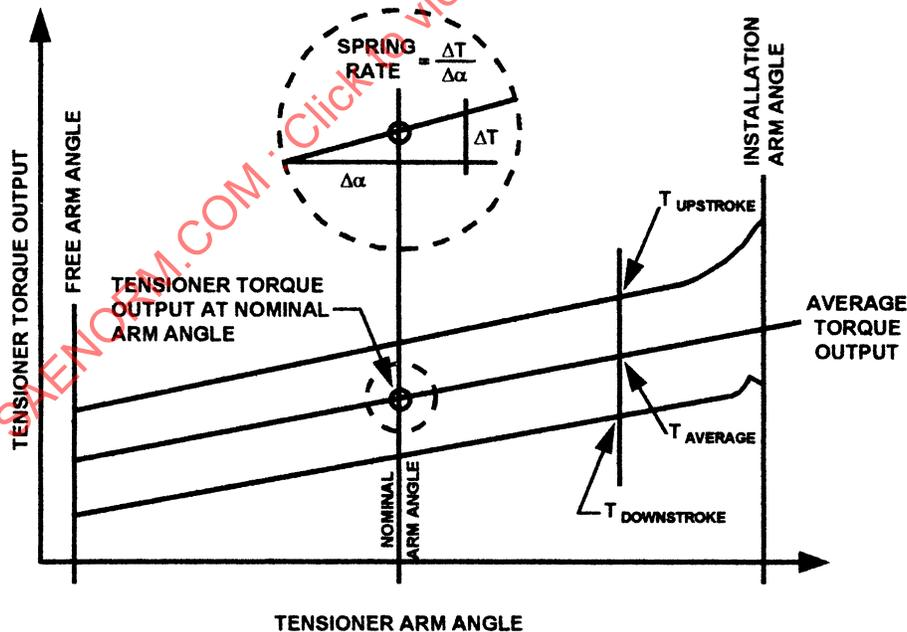

FIGURE 6—TENSIONER TORQUE OUTPUT
- 4.5.1 TENSIONER TORQUE OUTPUT CURVE—Tensioner load output versus tensioner arm position (hysteresis curve). (See Figure 6.)